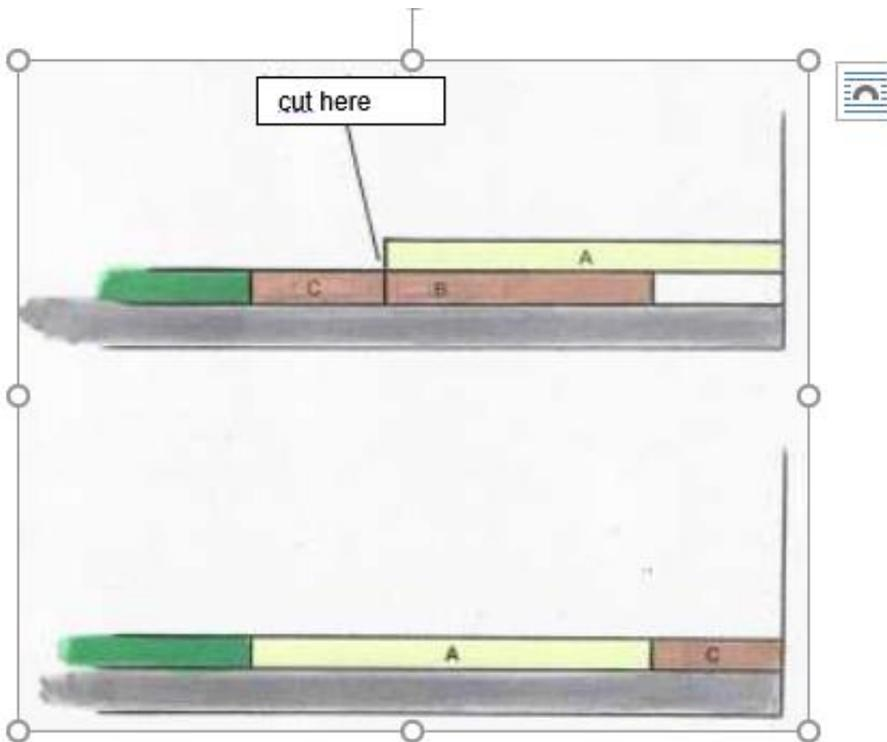

Fig. 03: Laying Procedure
The cutting of the edge tiles can be done according to the following methods (Fig. 03).
- However, you can also place the element that is supposed to be adjusted on top of the last complete carpet tile being laid out so that it butts up exactly against the wall. Now you can cut the carpet tile below with a knife, possibly with the help of a rail. Then simply exchange the positions of the two carpet tiles (Fig. 03).